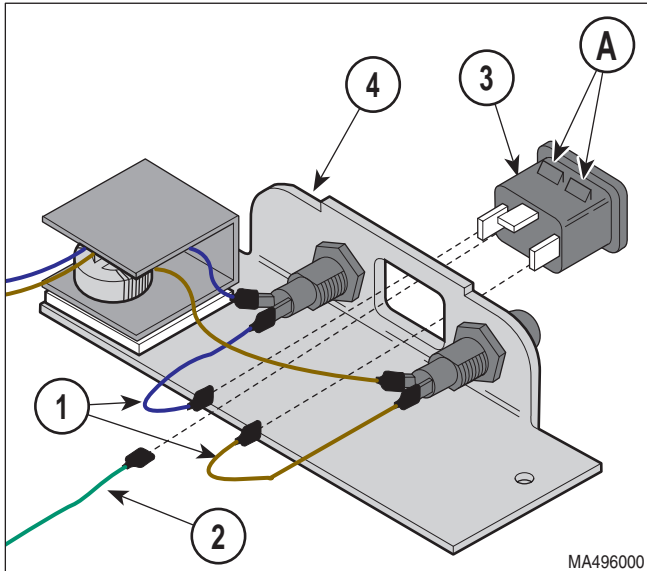

Figure 4-60. AC Receptacle Removal / Installation
- (4) Lay table on its side.
- (5) Remove two screws (9) and power inlet bracket (10) from bottom of base casting (3).
- (6) Tag and disconnect two wires (1, Figure 4-60) and ground wire (2) from terminals of AC receptacle (3).
- (7) Depress tabs (A); then remove AC receptacle (3) from power inlet bracket (4).